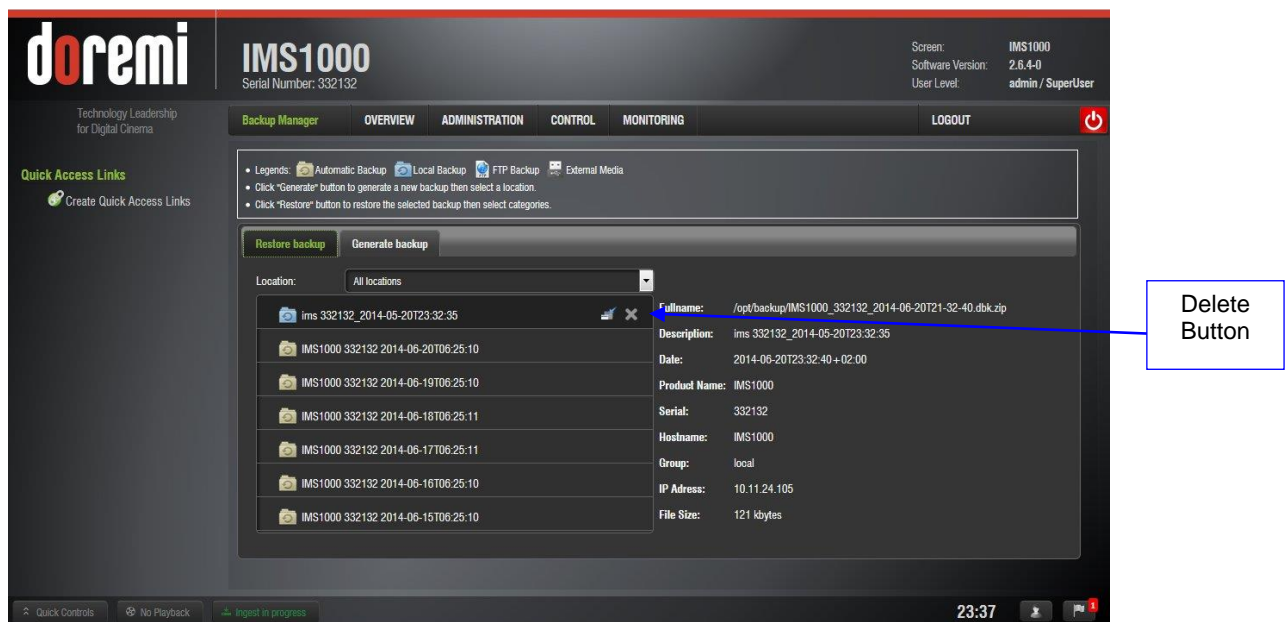

Figure 202: Delete Button
- If you want to delete a backup file that was previously generated, select the file from the Restore Backup tab and click on the Delete button (Figure 202).